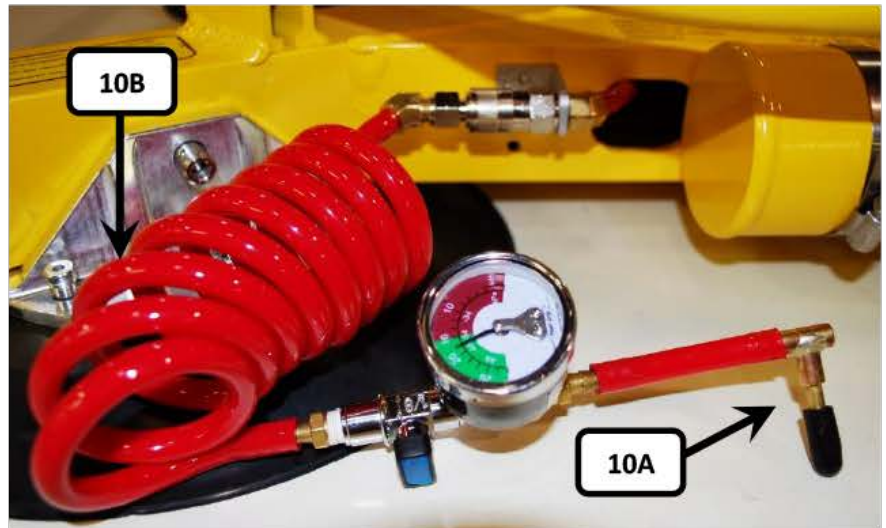

FIGURE 10
11) Remove the pad fitting (10A) from the coiled hose (10B) of the vacuum pad line to be tested. Attach a short piece of hose to the end of the ball valve with the vacuum gauge and attach the other end of this hose to the pad fitting. Attach the other end of the ball valve to the coiled hose as shown in **FIGURE 10**.